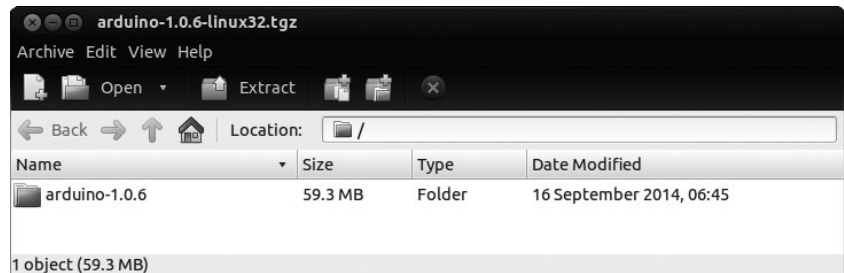

Figure 1-24: The IDE package
3. After the file has downloaded, it will be displayed in the Archive Manager, as shown in Figure 1-24. Copy the *arduino-1.0.6* folder (or something similar) to your usual application or Home folder.